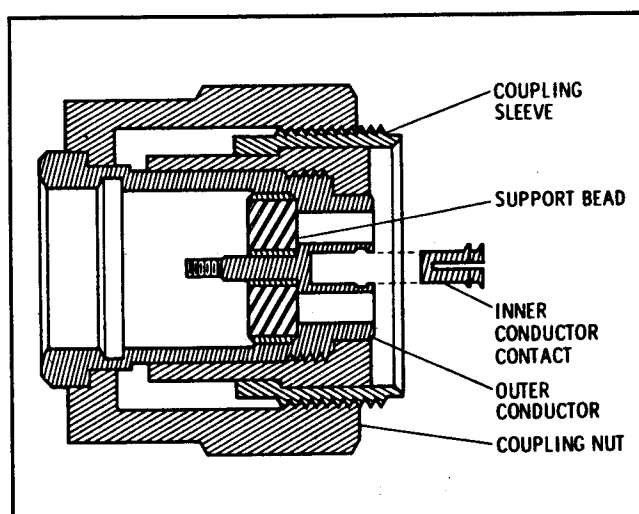

Figure 3. Precision 7 mm Connector
38. Inner Conductor Contact; Option 001. The center conductor collet (Figure 3) in the precision 7 mm connector, HP Part No. 1250-0907, may be replaced using a special extractor tool; HP Part No. 5060-0236. Examine the collet with a magnifying glass to determine if it is damaged. The collet must be free of burrs and the prongs must be equally spaced. If the collet needs to be replaced, perform the following procedure: